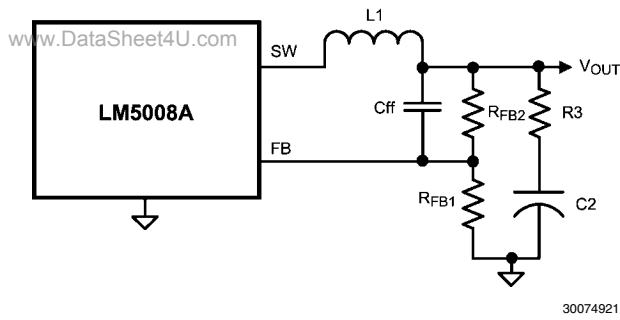

FIGURE 7. Reduced Ripple Configuration
a) Reduced ripple configuration: In Figure 7, C_{ff} is added across R_{FB2} to AC-couple the ripple at V_{OUT} directly to the FB pin. This allows the ripple at V_{OUT} to be reduced to a minimum of 25 mVp-p by reducing R3, since the ripple at V_{OUT} is not attenuated by the feedback resistors. The minimum value for C_{ff} is determined from: